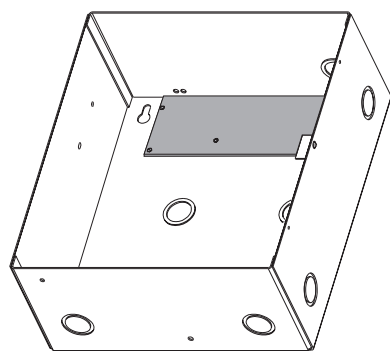

Figure 6. Installing the Board into the Metal Case
7. Snap the circuit board into the case (see Figure 6).